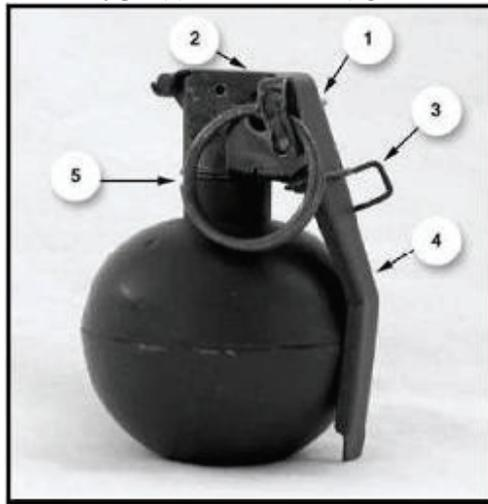

Figure 071-325-4401-3. Grenade components
- (1) Check for rust on the body or the fuse.
- (2) Ensure holes are not visible in the body or the fuse.
- (3) Check hand grenade for cracked body.
- (4) Place back in canister if any defect(s) are found, if applicable.
- b. Ensure the safety pin (1) is secured well (figure 071-325-4401-3).